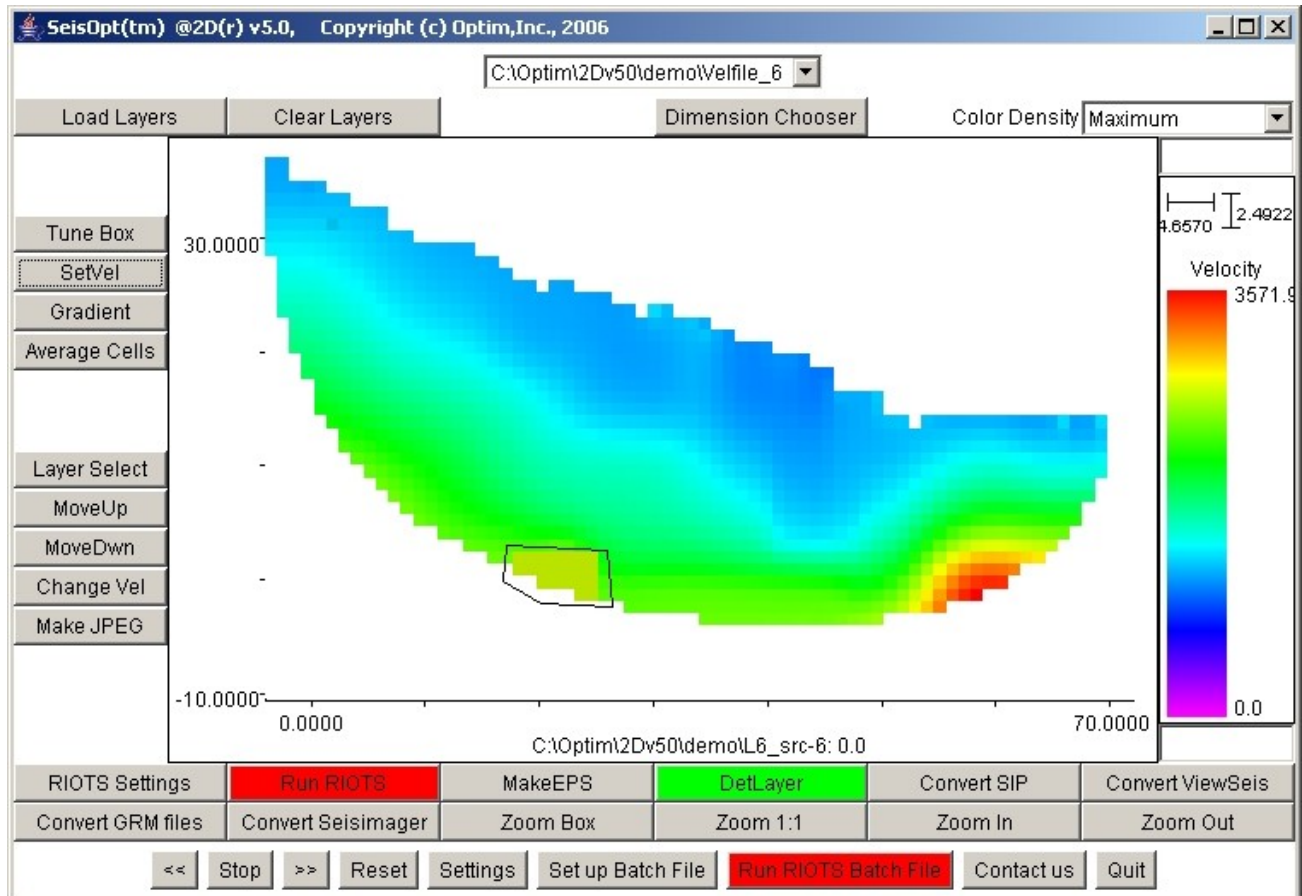

Figure 41b: Velocity value inside the ‘Tune Box’ changes to the entered value.
- Click 'Done' to execute the change (Figure 41b).